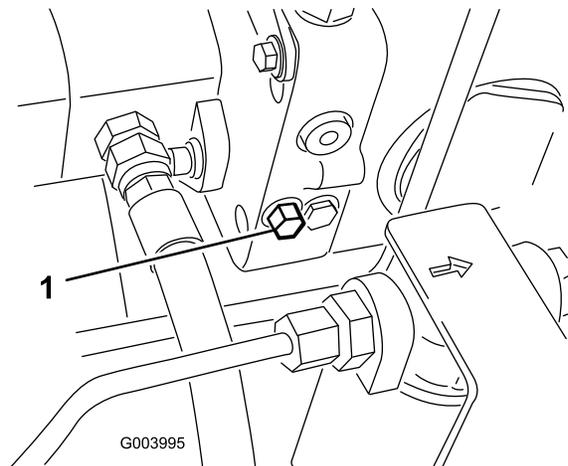

Figure 40
1. Rotate the bypass-valve bolt 1-1/2 turns to open and allow oil to bypass internally (Figure 40).